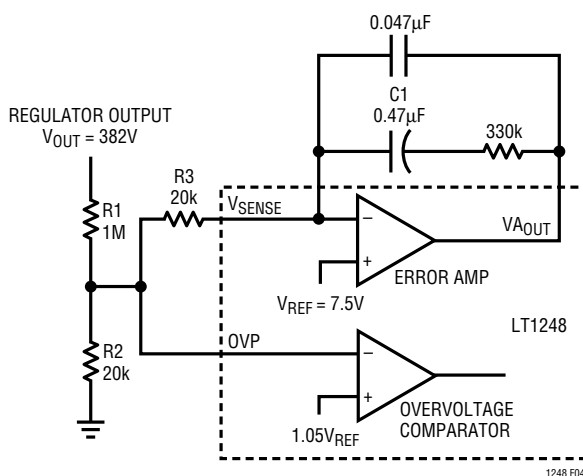

Figure 4.
**Pin 8 (OVP):** This is the input to the overvoltage comparator. The threshold is  $1.05$  times the reference voltage. When the comparator trips, the multiplier is quickly inhibited and outputs no current. Figure 4 in the Applications Information section shows how to set overvoltage threshold with only one additional resistor.
Because of the slow loop response necessary for power factor correction, output overshoot can occur with sudden load removal or reduction. To protect the power components and output load, the LT1248 provides an overvoltage comparator which senses the output voltage and quickly shuts off the current switch. In Figure 4, because there is no DC current going through R3, R1 and R2 set the regulator output DC level: VOUT = VREF[(R1 + R2)/R2], with R1 = 1M, R2 = 20k, VOUT is 382V.